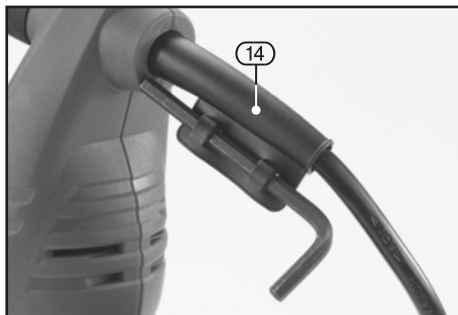

FIG.9
- Using the supplied hex. key (19), loosen the hex. bolt located on the underside of the base plate (13).
- Slide the base plate (9) backwards and adjust to the desired angle.
**Note:** If using the jigsaw in conjunction with the parallel guide (17), it must be removed to carry out the above step.
**Note:** Convenient hex. key storage (14) is incorporated into the base of the power supply cable (fig.9).